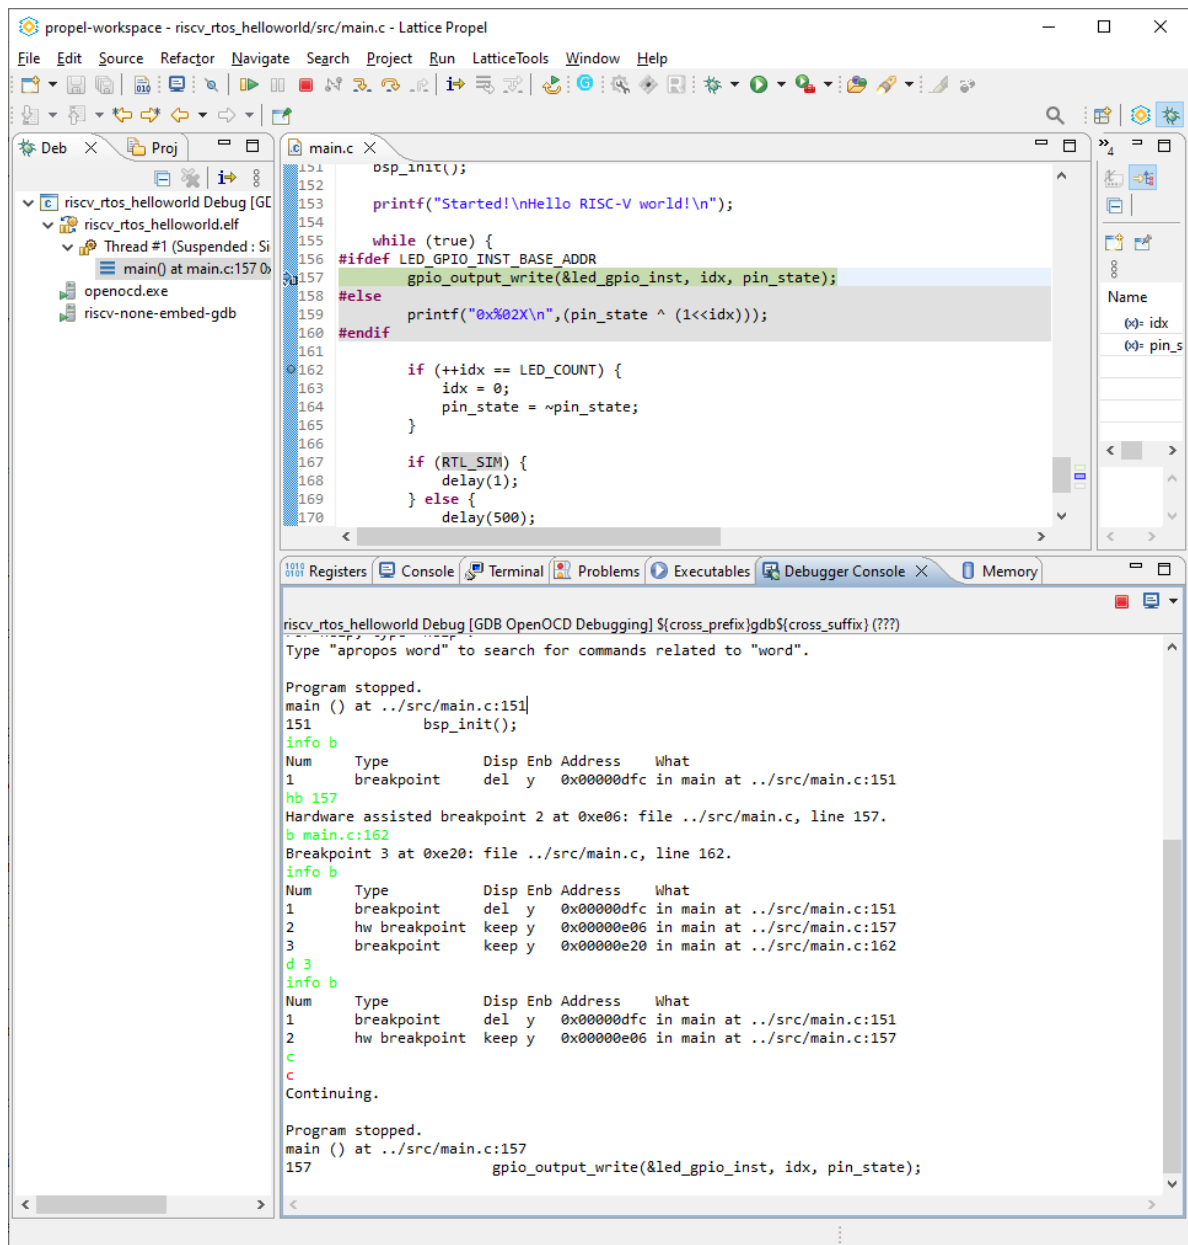

Figure H.1. GDB Console 1
1. Create a C/C++ project, build it, and execute on-chip debugging. Here a HelloWorld project is taken as an example (Figure H.1).
3. Input the following commands in sequence in the Debugger Console shown in Figure H.1.